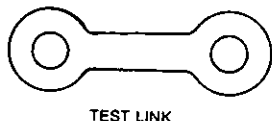

FIGURE 5
- b. Remove the fusible link from the terminal detector and install a test link (Part No. 15751). See Figure 5.